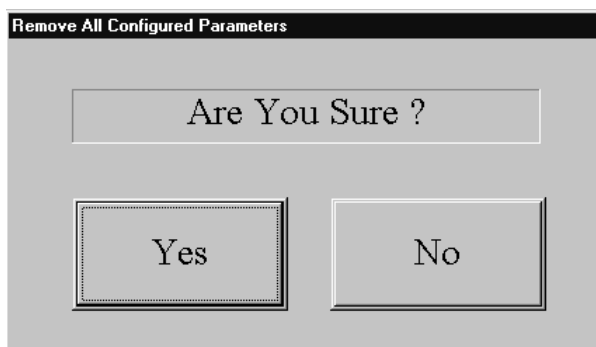

Figure 8-18. Remove All Configured Parameters Confirmation Dialog Box
1. Touch **[Remove All]**. The confirmation dialog box shown in Figure 8-18 is displayed on the screen.